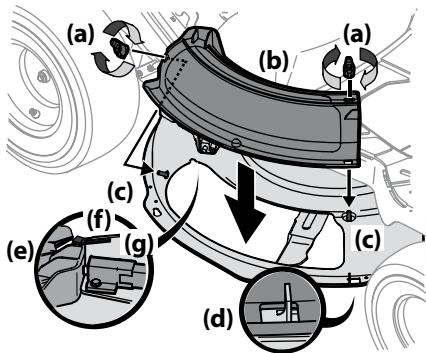

Figure 2-9
1. Remove the wing knobs (a) installed on the mowing deck and retain for later installation. See Figure 2-9.
2. Install the mulch plug (b) into the deck discharge opening on the deck. The rear of the mulch plug (b) should be under the tab (f) on the rear deck bracket (g). The studs (c) on the deck surface will fit through the holes on the upper portion of the mulch plug (b). The small tab (d) on the deck lip area will fit through the square cutout on the lower portion of the mulch plug (b). See Figure 2-9.